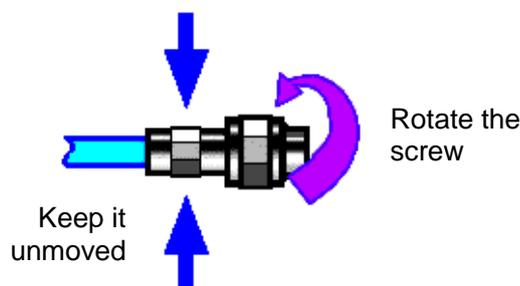

Fig. 2.4 Connection
Step 2. As shown in Fig. 2.4, move both connectors straight together, so that they can be connected smoothly; rotate the threaded sleeve of connector (rather than the connector itself) until it is tightened; during connection, there can be no relative rotary motion both connectors;